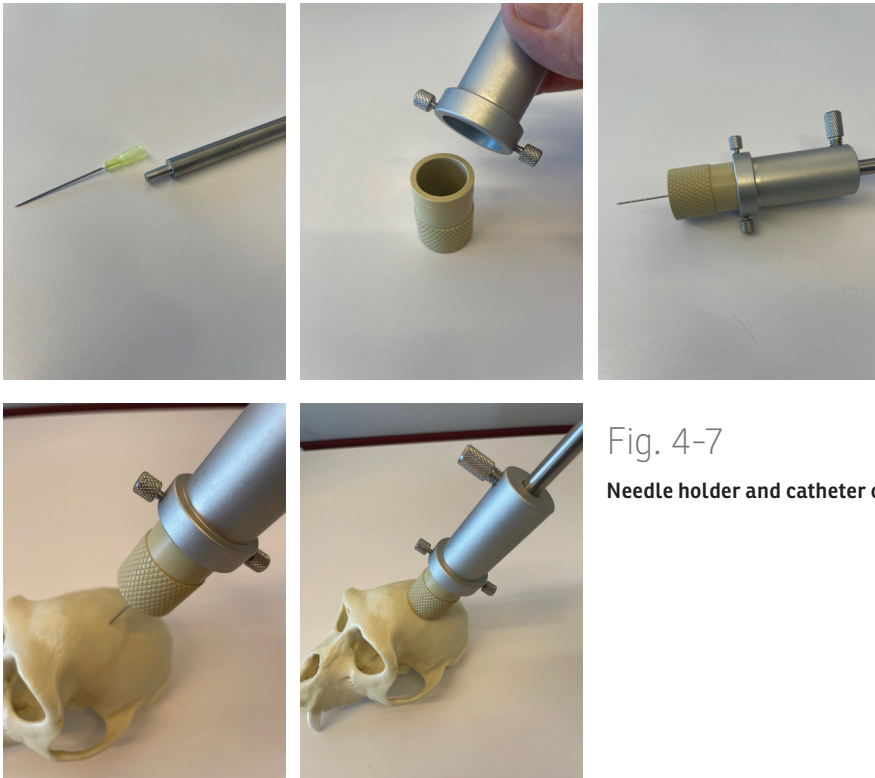

Fig. 4-7
1. Attach a standard needle to the chamber adaptor tool (fits 24 OD, 19 ID) (see Fig. 4-7).